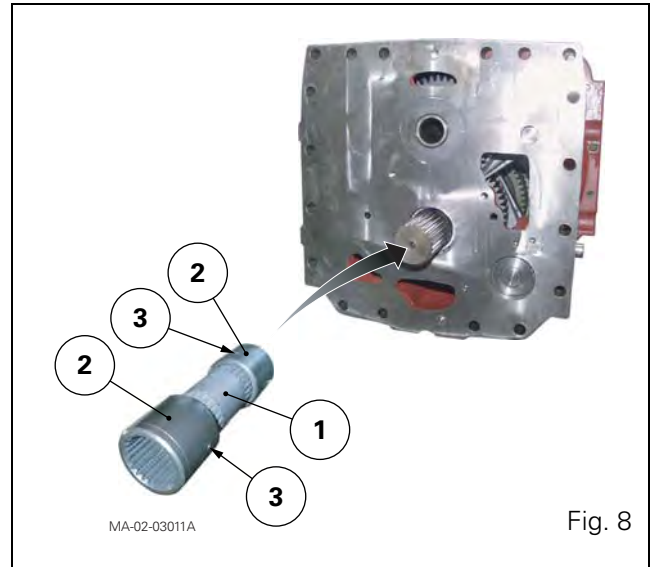

Fig. 8
- The union shaft (1) composed of the sleeves (2) and double pins (3) is present (Fig. 8).